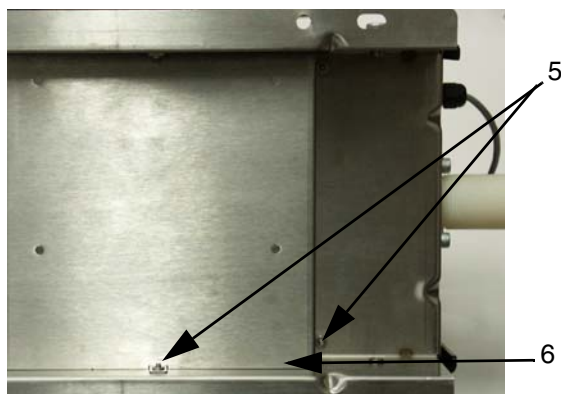

FIG. 19
2. Loosen 6 screws (5) on bottom of panel to remove control board cover (6). FIG. 19 (RoboMix Fluid Panel only.)
7. Reassemble control board cover with 6 screws (5). FIG. 19. (RoboMix Fluid Panel only.)